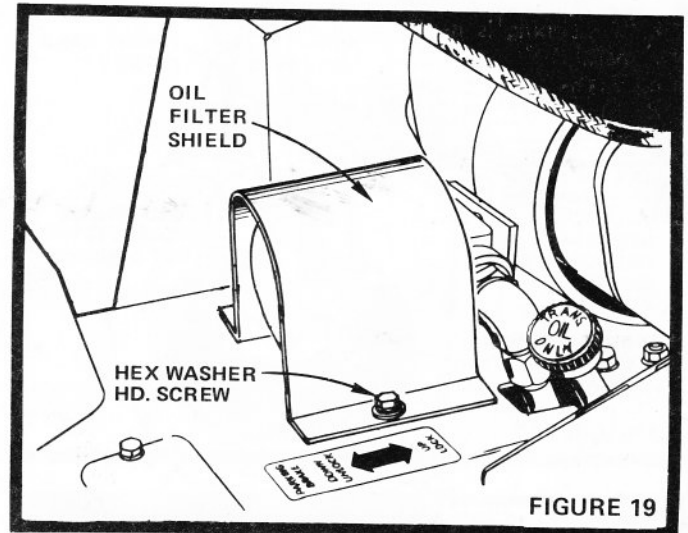

FIGURE 19
- Remove Screw from each side of Oil Filter Shield (Fig. 19). Place rag under Filter to absorb oil leakage.